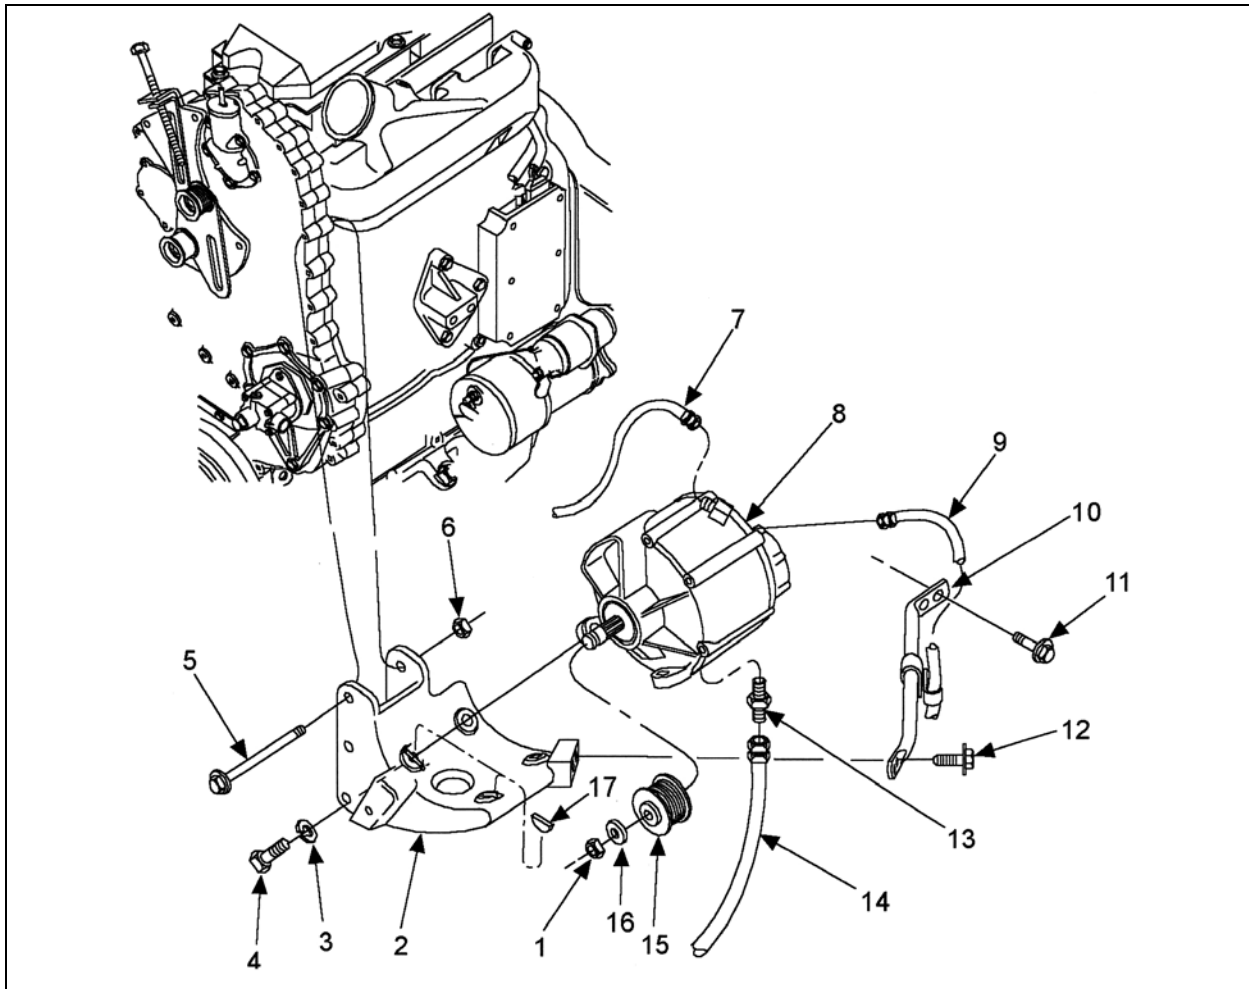
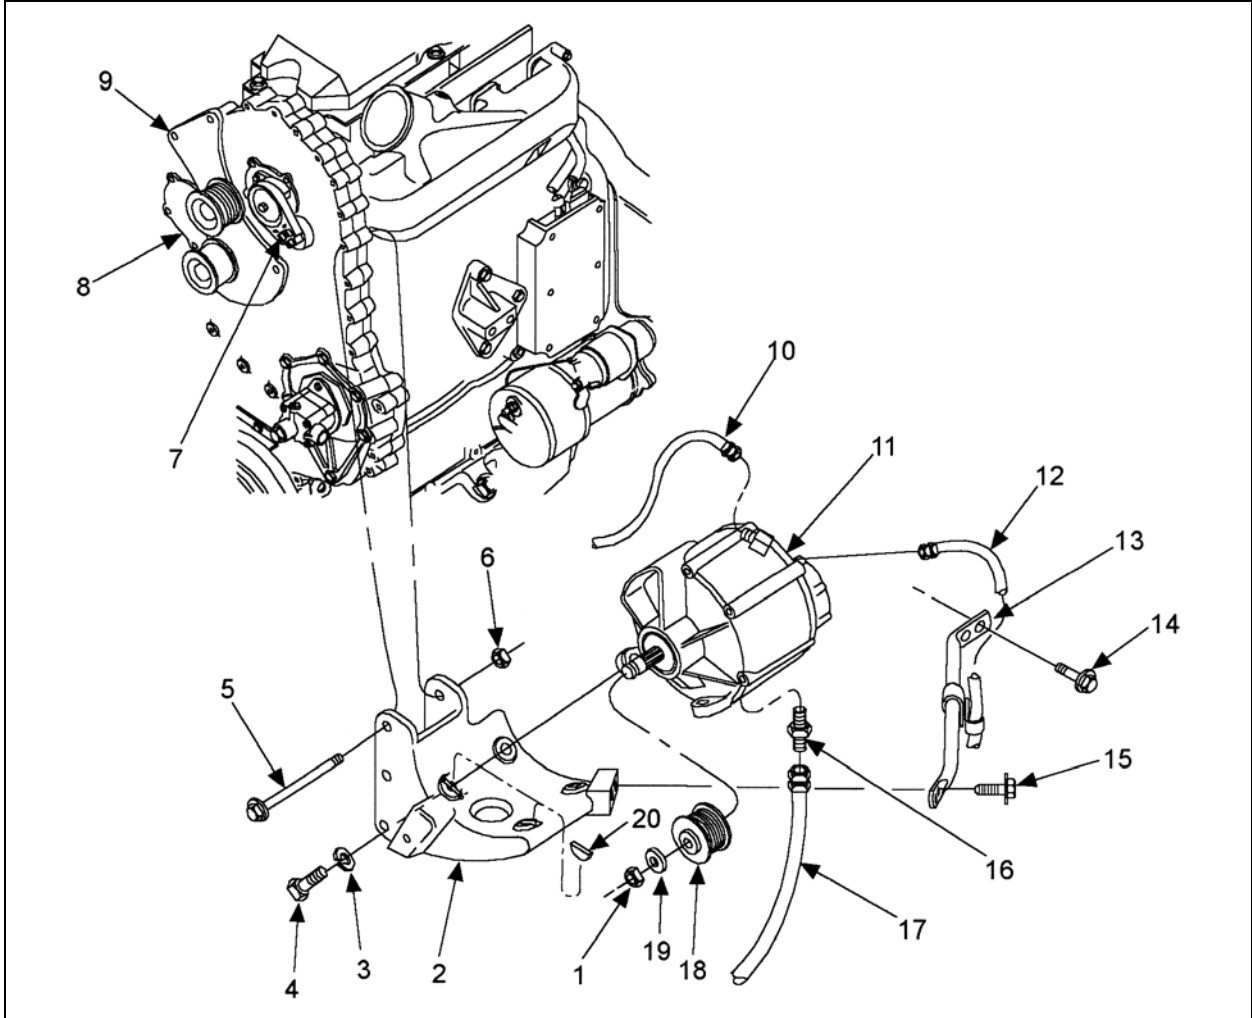

FIGURE 3: DELCO ALTERNATOR, FORMER INSTALLATION
FIGURE 4: DELCO ALTERNATOR, CURRENT INSTALLATION
5. If an automatic belt tensioner assembly is installed (such as item 7, figure 4), use a breaker bar with a  $\frac{3}{4}$  inch drive to rotate the tensioner pulley upward to relieve alternator belt tension. Remove the belt;
6. If an automatic belt tensioner is not installed, loosen the alternator mounting bolts and adjusting rod nut to allow slack in the drive belts. See figure 3 for former Delco alternator installation and figure 4 for current Delco alternator installation;